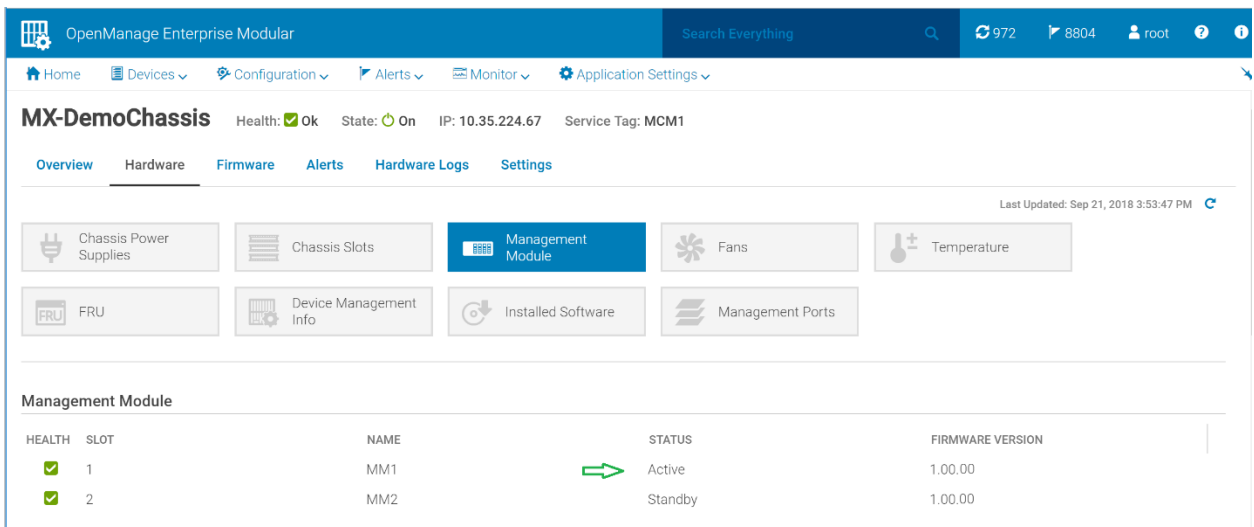

Figure 7 Identifying Active MM via GUI
- Via the OME Modular GUI (Figure 7)